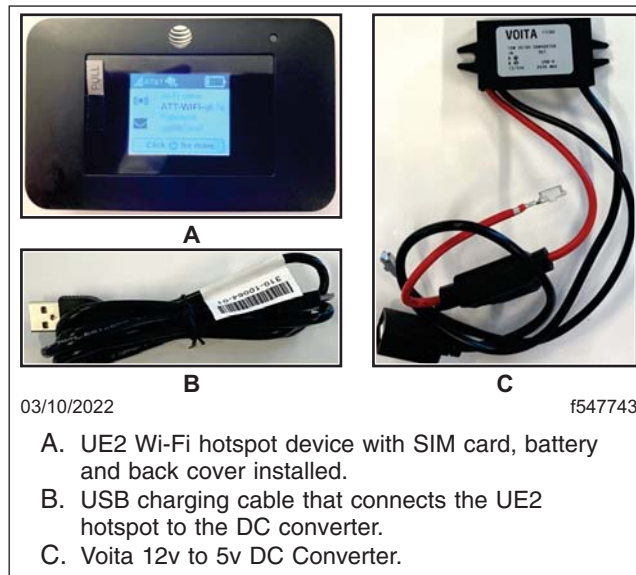

Fig. 7, Units Ready to be Installed in the Vehicle
1. From the SF625 parts kit, open the 'AT&T Unite Express 2' box, and identify the following components which will be used to set up a Wi-Fi hotspot in the vehicle. See Fig. 7.